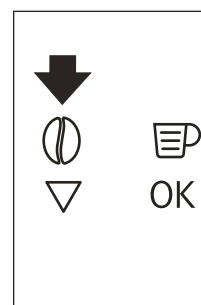

Fig. 15
- ▶ Press the  icon (B4) (Fig. 15) and select the pre-ground coffee function.